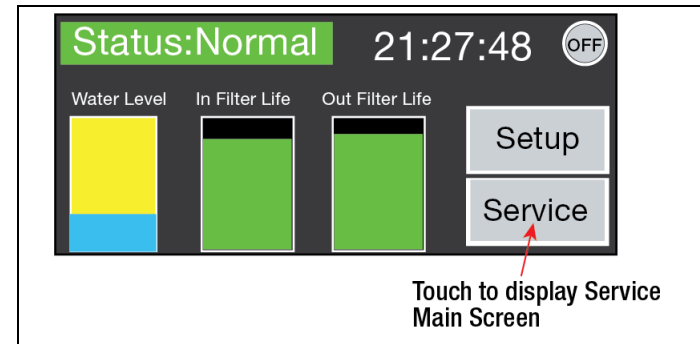

Figure 4.
19. At the Fuel Conditioning Controller front panel, touch the Service button to open the Service Home screen (see Figure 4).